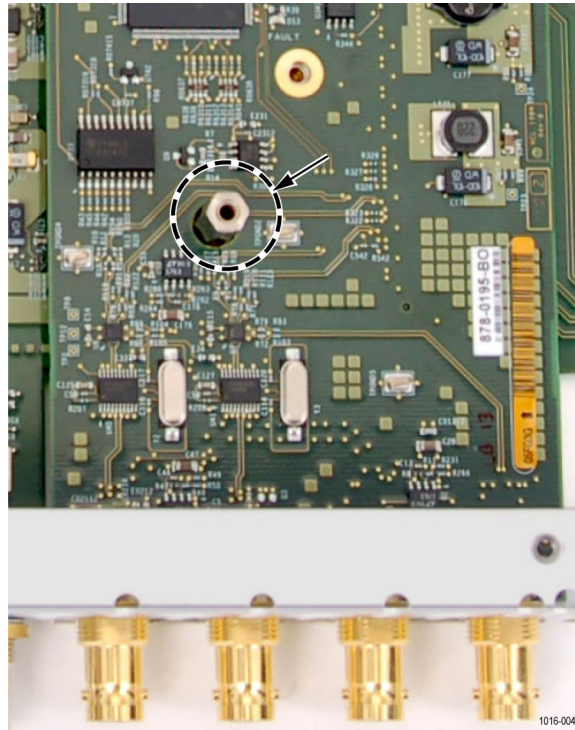

Figure 5: Audio post through video board
4. If an audio board was present, there will be a post protruding through the video board. Temporarily remove the post and save it for reinstallation. (See Figure 5.)
- f.** Reinstall the post for the audio board if one was removed. (See Figure 5.)